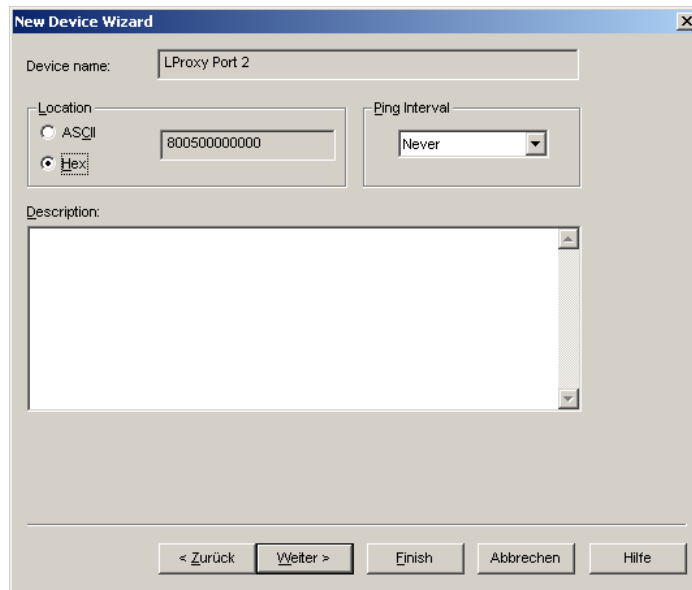

Figure 72: Leave defaults for Location.
5. The following dialog shown in Figure 72 appears, click **Next**.